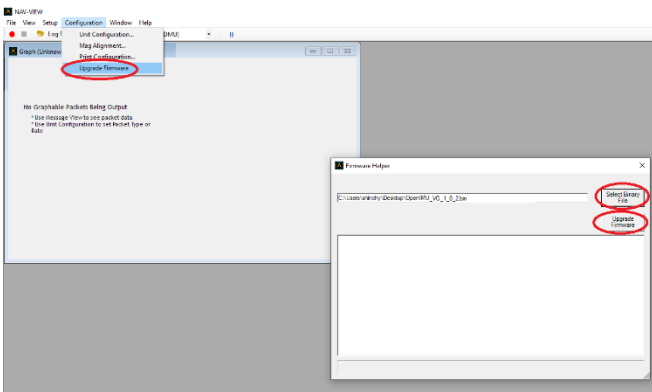

Figure 6. Firmware Update using NavView
- Use Configuration -> Update Firmware as shown in Figure 6 to write the application image previously downloaded to the part
- Configure the serial port for the appropriate baud rate as shown in Figure 6 (for the default applications this is 115200 bps).